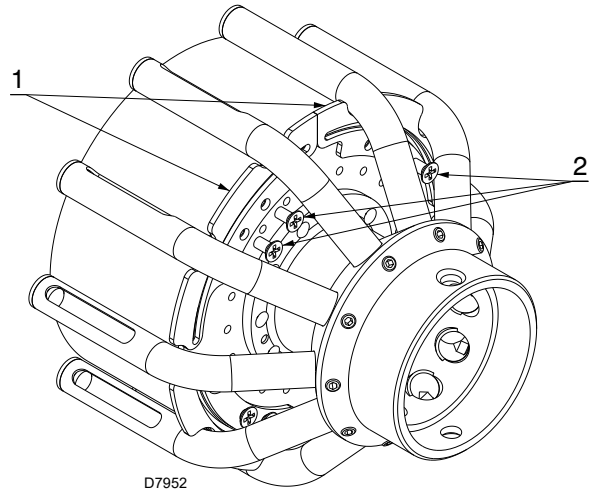

**Fig. 17**
For boilers with front flue passes 13)(Fig. 17 at page 24), or flame inversion chambers, a protection in refractory material 11) must be inserted between the boiler refractory 12) and the blast tube 10).
For boilers with a water-cooled frontal, a refractory cover is not necessary 11)-12)(Fig. 17), unless expressly requested by the boiler manufacturer.
Separate the combustion head from the rest of the burner, as in Fig. 17; proceed as follows:
- reassemble the burner on the guides 3) at about 100 mm from the pipe coupling 4) - burner in the position shown in Fig. 17;
- connect the plug of the servomotor 14)(Fig. 17) and tighten the grommet 15);